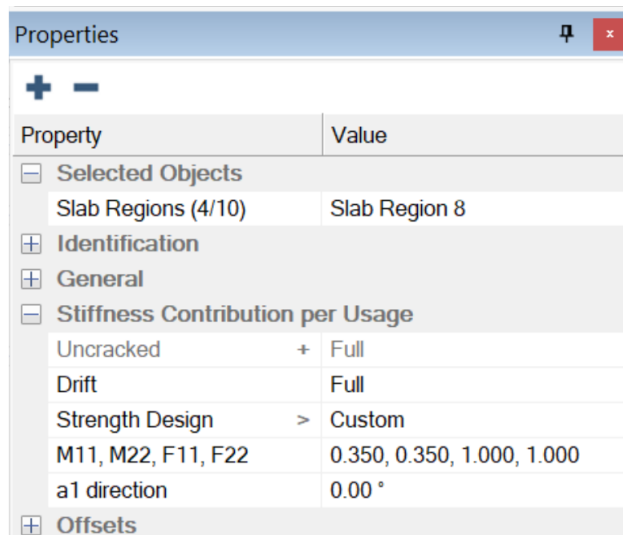

FIGURE 12-4
- In the text box next to *M11, M22, F11, F22*, change the M11 and M22 values to **0.35**, as shown in **FIGURE 12-4**.